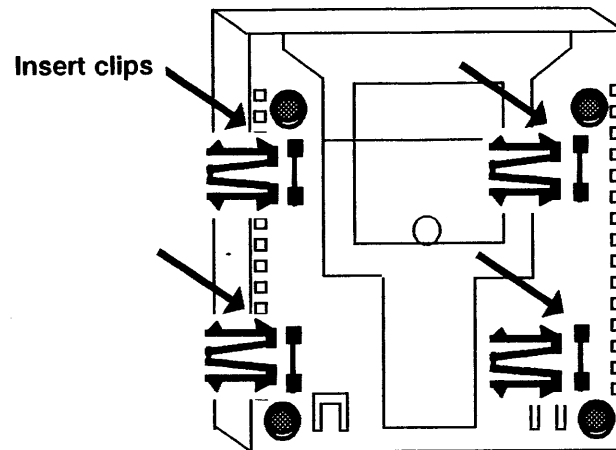

Figure 8A. Cartridge Tape Drive or Floppy Disk Drive (Bottom View)
1. Install the tops of the four "M" shaped mounting clips in the slots located on the bottom of the drive assembly (Figure 8A).
2. Install the tops of the four "M" shaped mounting clips in the slots located on the bottom of the cartridge tape drive assembly (refer to Figure 8A).